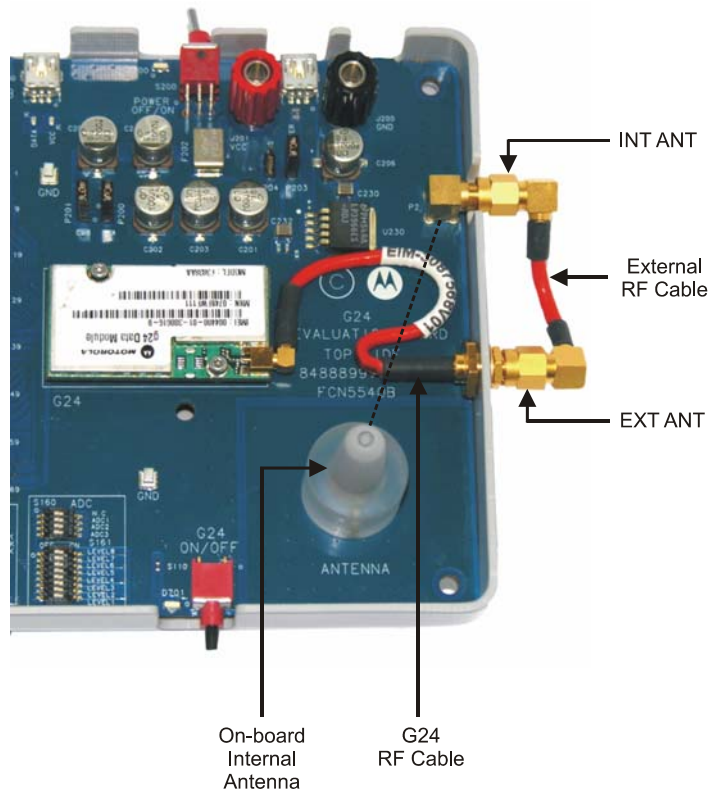

Figure 2-13: Antenna Connectors (internal)
- Connect the **EXT ANT** and **INT ANT** connectors with the additional RF cable supplied in the Developer's Kit (Figure 2-13).
2. Connect an external antenna or antenna application to the **EXT ANT** connector (Figure 2-13).